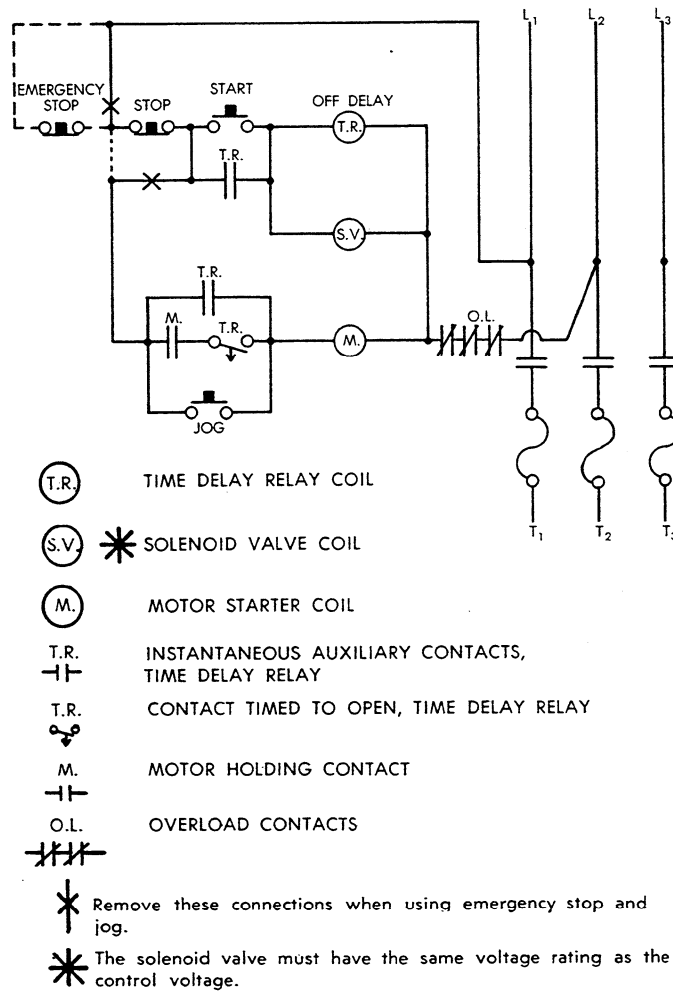

FIGURE 21
4. If the load on the VARIDRIVE would cause it to stop in less than 5 seconds install a time delay relay per Figure 21. This will let the drive continue to run until it has returned to low speed. The time delay will then shut the drive off.